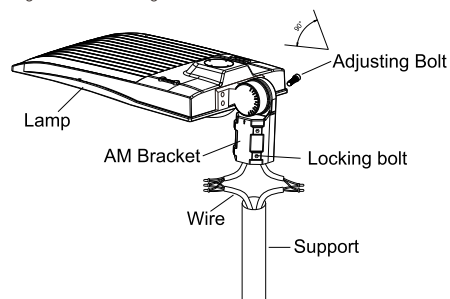

Figure 1
1.ADJUSTABLE FITTER MoUNTING (AM)
Step 1: Loosen the four bolts on AM bracket, connect the wires correctly, and pull the wires into the poles.(Figure 1)
Notice: Adjustable angle is 0-90°(Figure 1)